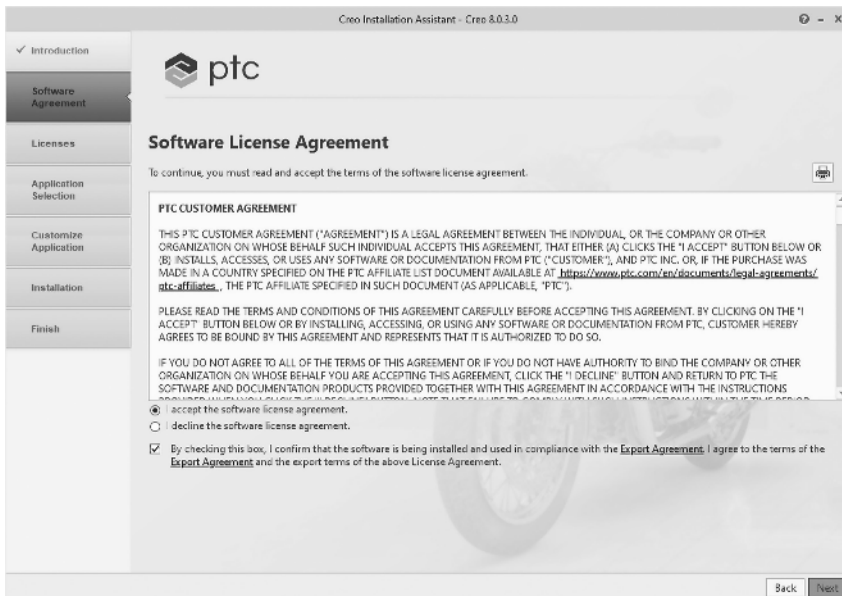

FIGURE 1.3 Creo License Agreement
- Read through the Software License Agreement → Accept the license agreement → Click Next (Figure 1.3)